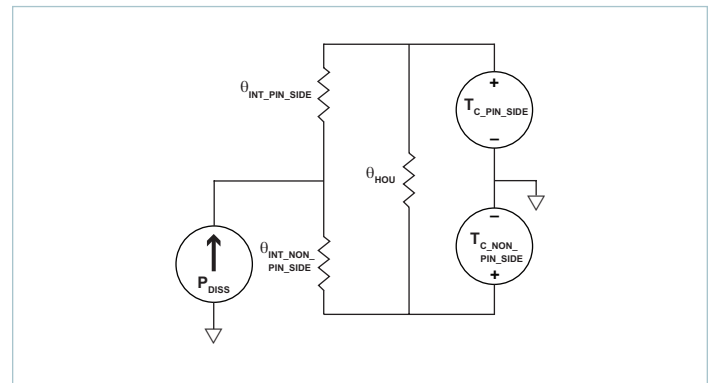
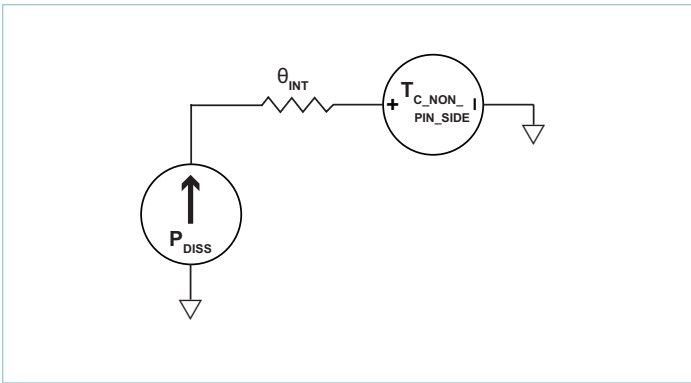

Figure 22 — Double-sided cooling VIA thermal model
Figure 23 — Single-sided cooling VIA thermal model
The VIA package provides effective conduction cooling from either of the two module surfaces. Heat may be removed from the pin-side surface, the non-pin-side surface or both. The extent to which these two surfaces are cooled is a key component for determining the maximum power that can be processed by a BCM, as can be seen from the specified thermal operating area in Figure 1. Since the BCM has a maximum internal temperature rating, it is necessary to estimate this temperature based on a system-level thermal solution. For this purpose, it is helpful to simplify the thermal solution into a roughly equivalent circuit where power dissipation is modeled as a current source, isothermal surface temperatures are represented as voltage sources and the thermal resistances are represented as resistors. Figure 22 shows the “thermal circuit” for the BCM in a VIA package.
- **Single-side cooling:** the model of Figure 22 can be simplified by calculating the parallel resistor network and using one simple thermal resistance number and the internal power dissipation curves; an example for non-pin-side cooling only is shown in Figure 23.